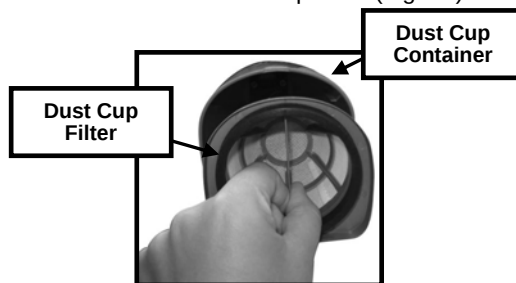

Fig. 10
2. Pull out the dust cup filter. (Fig. 10)